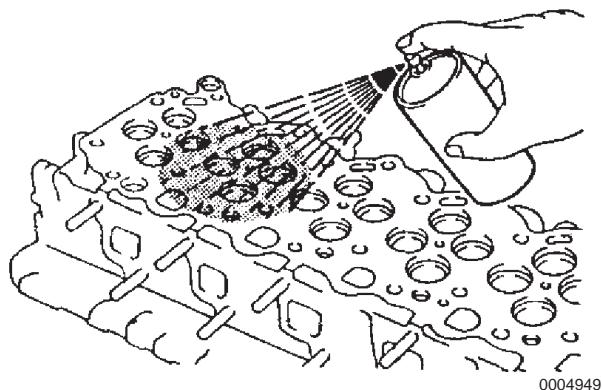

Figure 5-24
9. Check the intake and exhaust ports and the cylinder head deck surfaces for cracks, using a color check agent (**Figure 5-24**). If any cracks are discovered, replace the cylinder head.